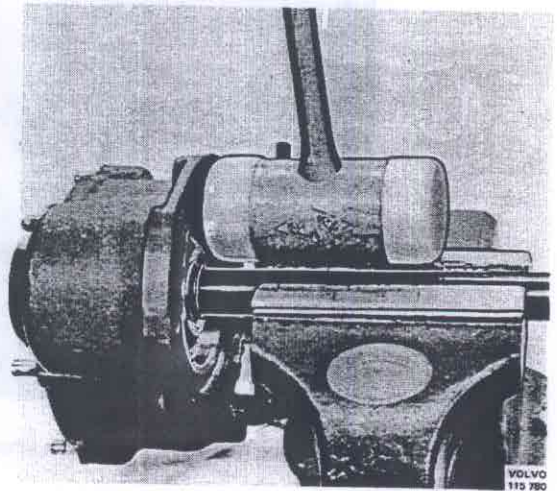

Fig. 46-113. Removing the drive shaft
3. Hold the drive shaft and with a plastic mallet knock the drive shaft and with a plastic mallet knock on the wheel carrier housing, see Fig. 46-113, so that the drive shaft releases from the gear wheel.